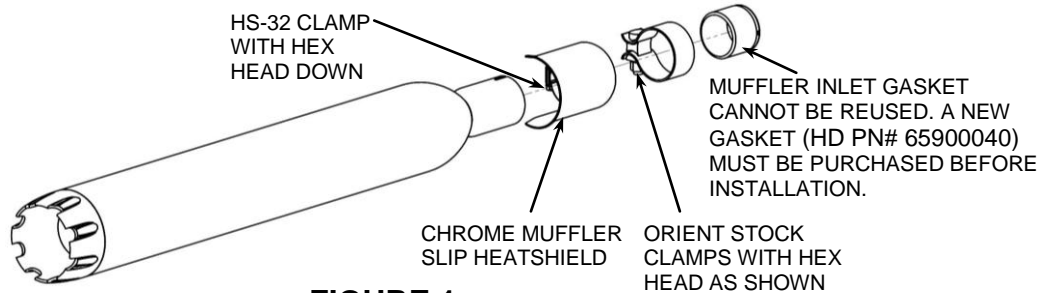

FIGURE 1
3. Position the stock clamp with hex head as shown in **Figure 1** and slide it onto the new muffler slip.
4. Install a new muffler inlet gasket into the muffler inlet. See **Figure 1**. **NOTE: THE MUFFLER INLET GASKET CANNOT BE REUSED. A NEW GASKET (HD PN# 65900040) MUST BE PURCHASED BEFORE INSTALLATION.**
5. Unscrew the supplied HS-32 hose clamp and insert it through the clip on the muffler slip heatshield so that the hex head is on the inside and facing down. See **Figure 1**.
6. Very carefully install the heatshield onto the muffler slip so that the larger flaired end is facing the dome of the muffler body and the smaller domed end of the heatshield is facing forward. See **Figure 1 & 2**. Be careful not to scratch the muffler dome or the heatshield. The hose clamp will go between the muffler dome and the stock muffler clamp.